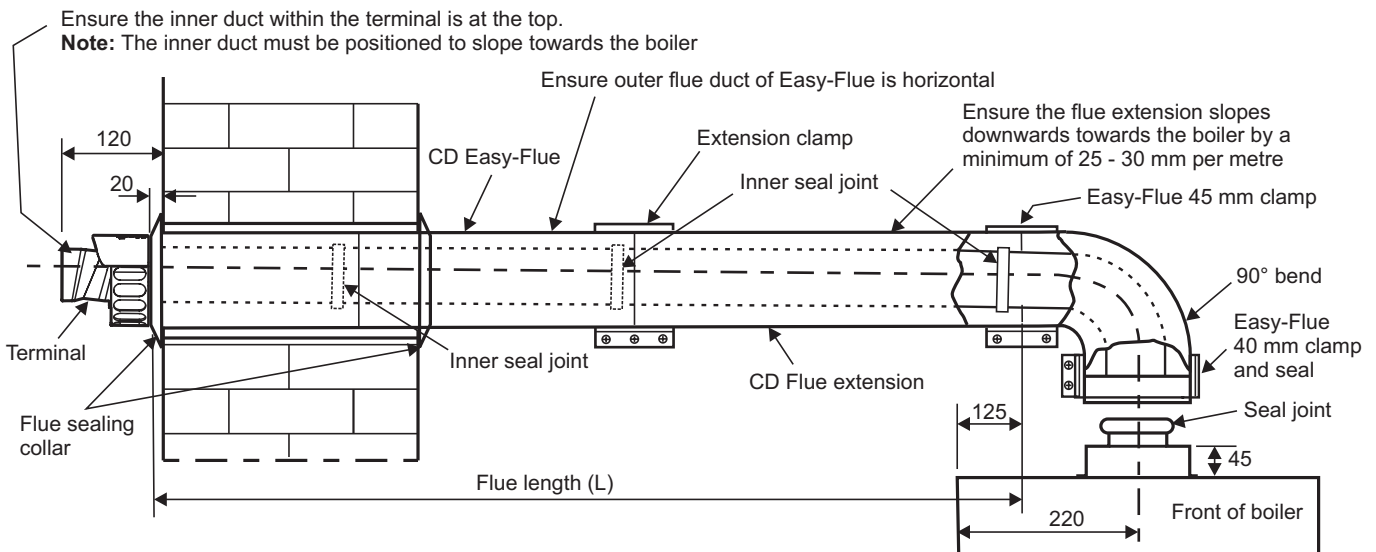

Fig. 20 - Side flue
#### 4.8 EXTENDING THE FLUE - Fig. 20
**Note:** Check the flue terminal protrudes 120 mm out of the wall and that the inner duct of the terminal is positioned correctly, i.e. the inner duct within the terminal is at the top. See Fig. 20.